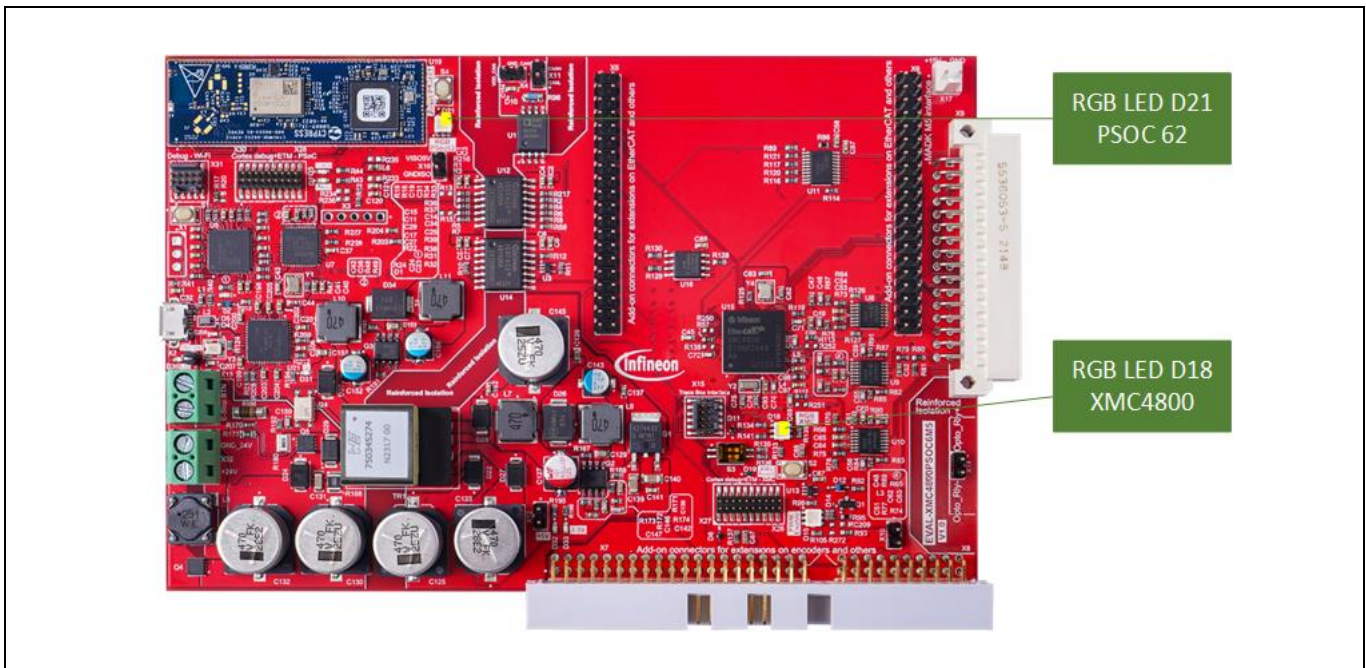

Figure 14 RGB LED D18/D21
The RGB LED D21, shown in Figure 14, is called Blinky.
14. RGB LED D18, shown in Figure 14, is Blinky.
If the hex files are programmed successful, the LEDs D18/D21, shown in Figure 14, will blink.